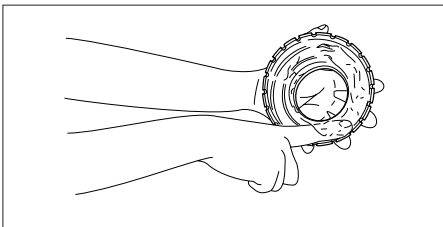

Fig.8.13
- 2) To enhance dust and moisture resistance, completely fill the area between the two lips of the rubber seal in the cover with grease. Also, put grease into the cover inside space, to approx. 2/3 its volume (apply cup grease unless otherwise specified) (**Fig.8.13**).
- 5) Put grease in the other cover in a manner similar to step 2), and fit the cover over the shaft. If the cover is a closed type, put some grease in advance in the spigot section of the bearing housing (**Fig.8.13**).